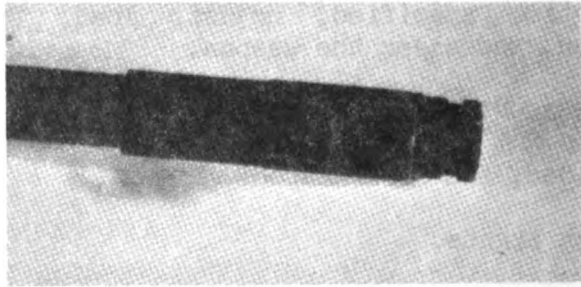

Figure 2
(2) Adjust front sight: (See fig. 2)